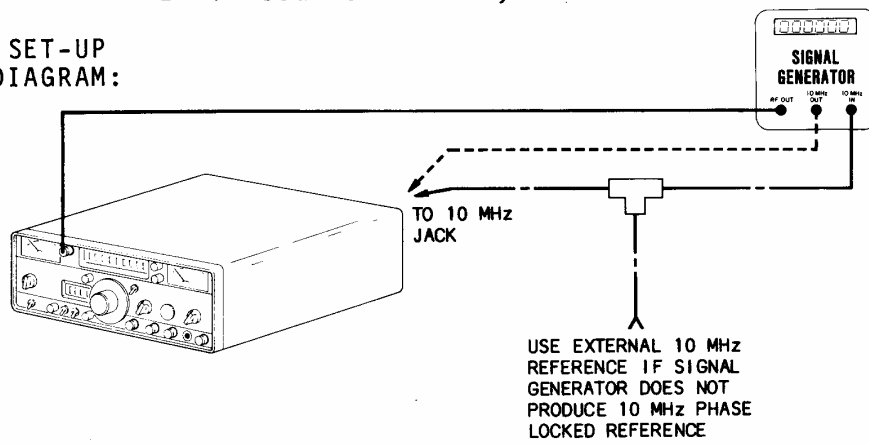

Figure 3-4 Frequency Error Meter Lab
1. Connect FM/AM-500A to accessory test equipment as shown in Figure 3-4.
2. Verify FREQ ERROR Meter (21) indicates 0 Hz (± 0 Hz).
4. Set Power Switch (17) in "LINE" position. Verify LOCK Lamp (22) illumination is steady and that FREQ ERROR Meter (21) indicates -10 kHz (± 300 Hz).
5. Rotate Frequency Error Meter Range Switch (19) to "RF 3K".
6. Rotate RF FREQUENCY Thumbwheels (25) to "500 003 0". Verify FREQ ERROR Meter (21) indicates -3 kHz (± 300 Hz).
7. Rotate Frequency Error Meter Range Switch (19) to "RF 1K".
8. Rotate RF FREQUENCY Thumbwheels (25) to "500 001 0". Verify FREQ ERROR Meter (21) indicates -1 kHz (± 90 Hz).
9. Rotate RF FREQUENCY Thumbwheels (25) to "500 000 0". Verify FREQ ERROR Meter (21) indicates 0 Hz (± 30 Hz).
10. Rotate RF FREQUENCY Thumbwheels (25) to "499 999 0". Verify FREQ ERROR Meter (21) indicates +1 kHz (± 30 Hz).
11. Rotate Frequency Error Meter Range Switch (19) to "RF 3K".